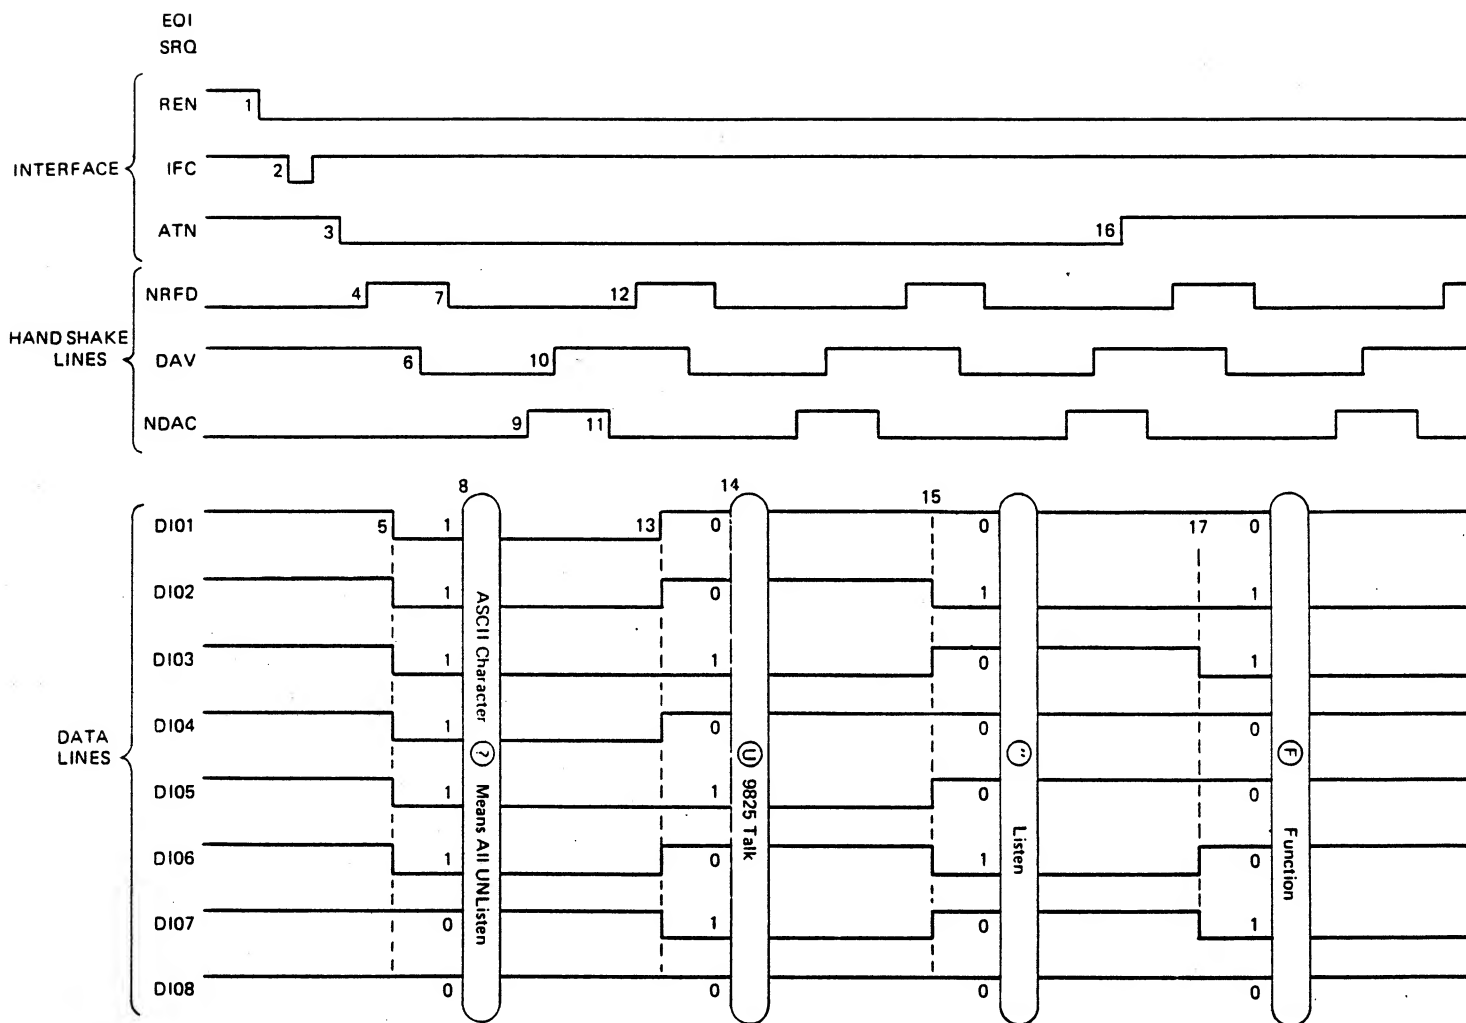

Figure 3.11 - Interface Timing
3.4.4.1 The handshake is the process by which each data byte is transferred from the source to the acceptor. Figure 3.11 illustrates the sequential relationship between the DAV, NRFD, and NDAC lines (used to transfer data bytes). Figure 3.12 illustrates the handshake flow chart.
3.4.6.1 The transmission of programming instructions to the Series 6000 and the subsequent transmission of measurement data to the controller are accomplished by transmitting programming instructions as outlined in the bus operation sequence in Table 3.10. Table 3.10 and the accompanying timing chart (Figure 3.11) illustrate the sequence of the transmission of device dependent messages to the 6000 which cause it to measure the voltage of a measurement signal applied to the input and then transmit the resultant measurement data to the controller via the interface bus.